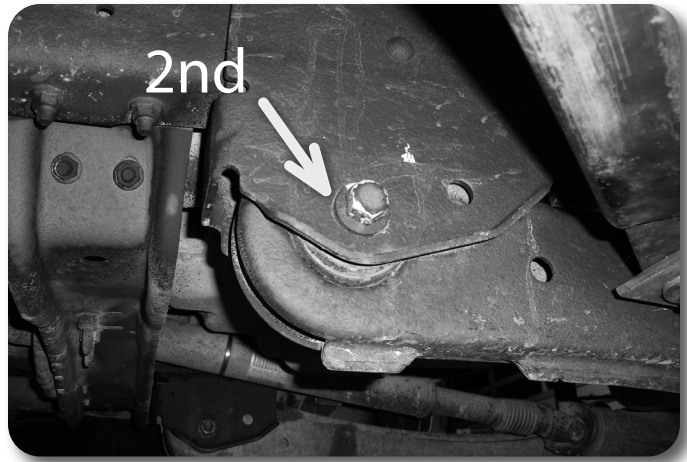

Figure 11
25. Starting with the passenger's side, 1st remove the upper radius arm mounting bolt at the axle. 2nd, remove the radius arm bolt at the frame and lower the radius arm from the frame bracket. 3rd, remove the lower mounting bolt at the axle and remove the radius arm from the vehicle. **Figure 11** Save hardware.